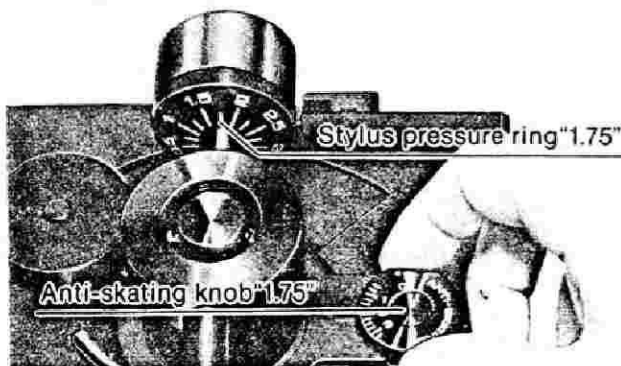

Fig. 6
**2. Anti-skating adjustment (Fig. 6)**